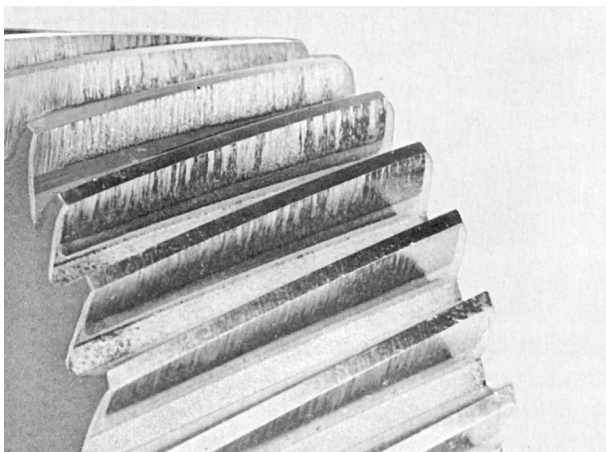

Figure 56
- (1) Score marks on the teeth are an indication that the film thickness of the oil is insufficient for the loads imposed. Score marks are vertical marks on the teeth from the top of the teeth to the root (see Figure 56).
For more detailed descriptions, illustrations, causes, and remedies, see ANSI/AGMA Standard 110.04. Note also, Figures 56 and 57 were extracted from “AGMA Standard Nomenclature of Gear Tooth Failure Modes” (AGMA 110.04), with the permission of the publisher: The American Gear Manufacturer’s Association, Suite 1000, 1901 North Fort Myer Drive, Arlington, Virginia 22209.